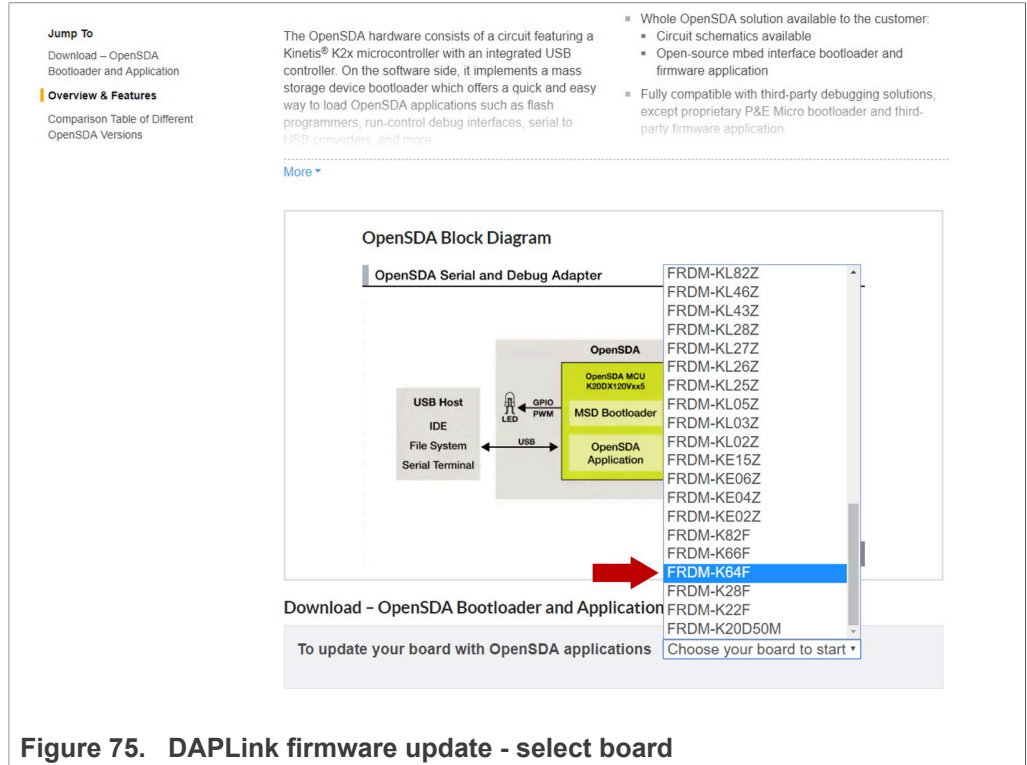

Figure 75. DAPLink firmware update - select board
2. Scroll down and select FRDM-K64F board from the **Download - OpenSDA bootloader and application** drop down list as indicated in Figure 75: